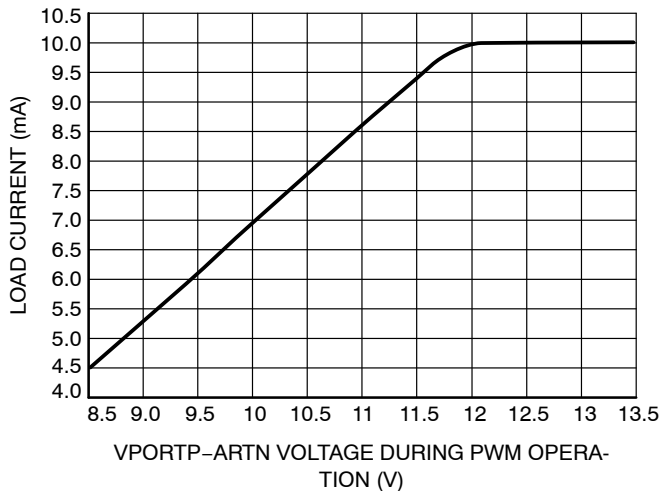

Figure 6. (Ivddl_load)max with Auxiliary Supply Operation
8. See Figures 6 and 7 for specifications on the load current at lower or higher VPORTP-ARTN voltages. In case the application requires more current capability on VDDL and VDDH, it is recommended to externally supply the VDDH pin with a bias winding from the transformer or to add a diode between VAUX(+) and VDDH pin (verify the VAUX voltage does not exceed the VDDH voltage range).